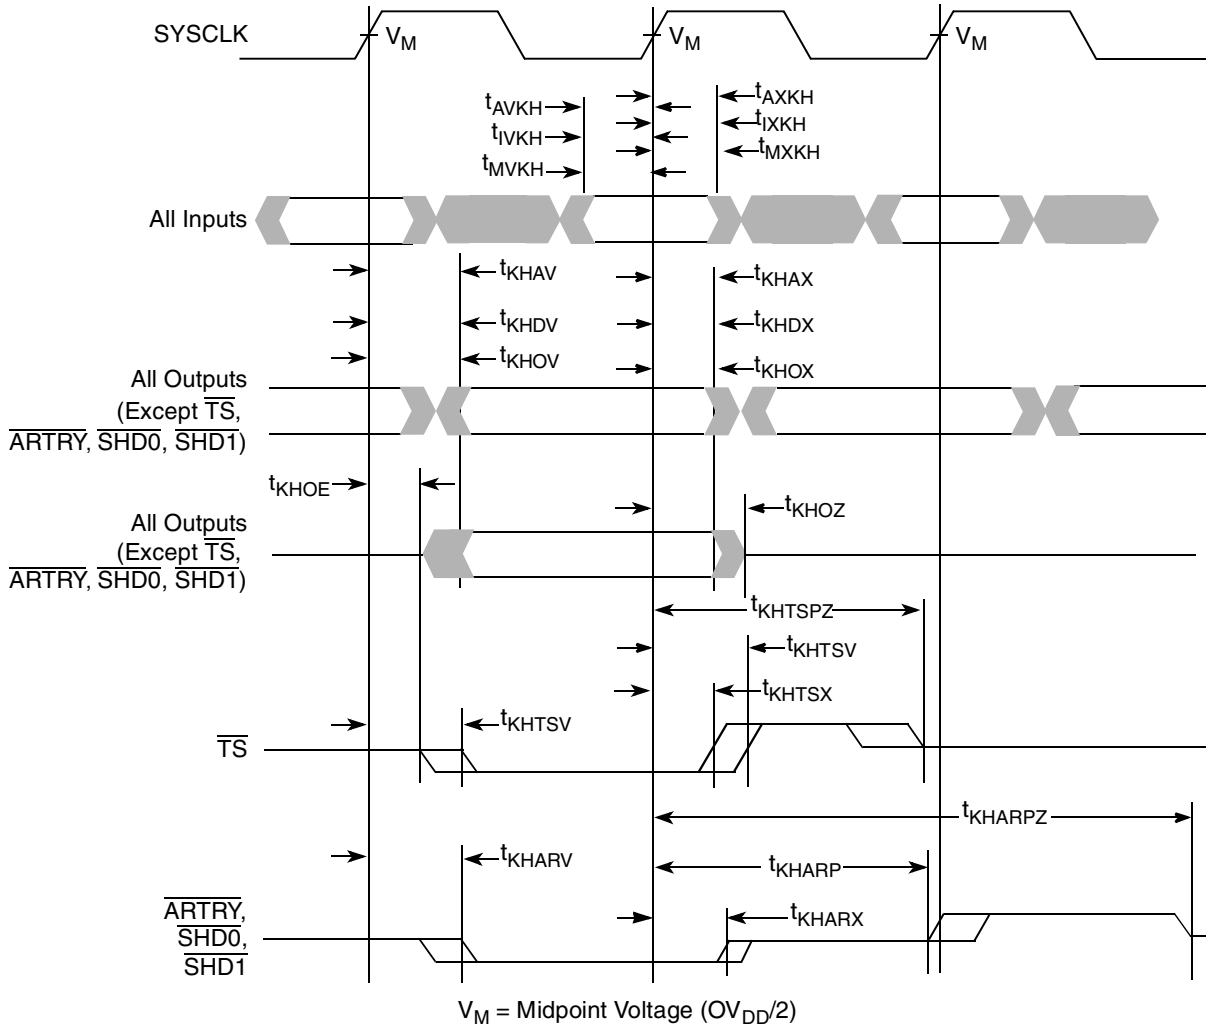

Figure 6. Input/Output Timing Diagram
- The symbology used for timing specifications herein follows the pattern of $t_{(\text{signal})(\text{state})(\text{reference})(\text{state})}$ for inputs and $t_{(\text{reference})(\text{state})(\text{signal})(\text{state})}$ for outputs. For example, t_{VVKH} symbolizes the time input signals (I) reach the valid state (V) relative to the SYSCLK reference (K) going to the high (H) state or input setup time. And t_{KH0V} symbolizes the time from SYSCLK(K) going high (H) until outputs (O) are valid (V) or output valid time. Input hold time can be read as the time that the input signal (I) went invalid (X) with respect to the rising clock edge (KH) (note the position of the reference and its state for inputs) and output hold time can be read as the time from the rising edge (KH) until the output went invalid (OX).
- According to the bus protocol, $\overline{\text{TS}}$ is driven only by the currently active bus master. It is asserted low and precharged high before returning to high impedance, as shown in Figure 6. The nominal precharge width for $\overline{\text{TS}}$ is $0.5 \times t_{\text{SYSCLK}}$, that is, less than the minimum t_{SYSCLK} period, to ensure that another master asserting $\overline{\text{TS}}$ on the following clock will not contend with the precharge. Output valid and output hold timing is tested for the signal asserted. Output valid time is tested for precharge. The high-impedance behavior is guaranteed by design.
- According to the bus protocol, $\overline{\text{ARTRY}}$ can be driven by multiple bus masters through the clock period immediately following $\overline{\text{AACK}}$. Bus contention is not an issue because any master asserting $\overline{\text{ARTRY}}$ will be driving it low. Any master asserting it low in the first clock following $\overline{\text{AACK}}$ will then go to high impedance for 1 clock before precharging it high during the second cycle after the assertion of $\overline{\text{AACK}}$. The nominal precharge width for $\overline{\text{ARTRY}}$ is $1.0 t_{\text{SYSCLK}}$; that is, it should be high impedance as shown in Figure 6 before the first opportunity for another master to assert $\overline{\text{ARTRY}}$. Output valid and output hold timing is tested for the signal asserted. The high-impedance behavior is guaranteed by design.
Figure 6 provides the input/output timing diagram for the MPC7447A.